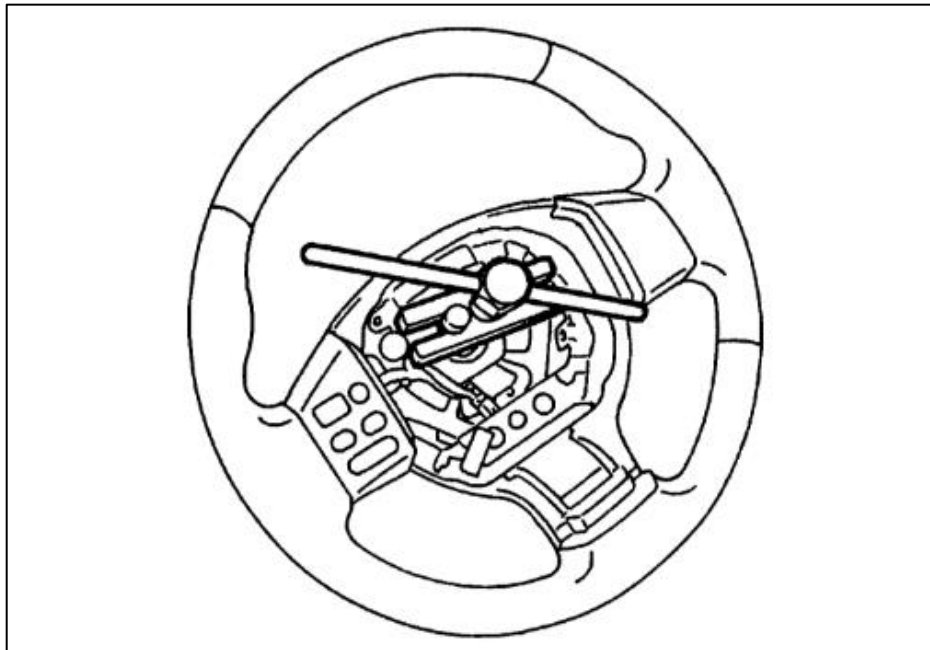

Figure 6
11. Using a Steering Wheel Puller, remove the OE Steering Wheel. If you do not have a Steering Wheel Puller, grab the Steering Wheel at the top and bottom, and rock the wheel back and forth to loosen it. *Figure 6.*